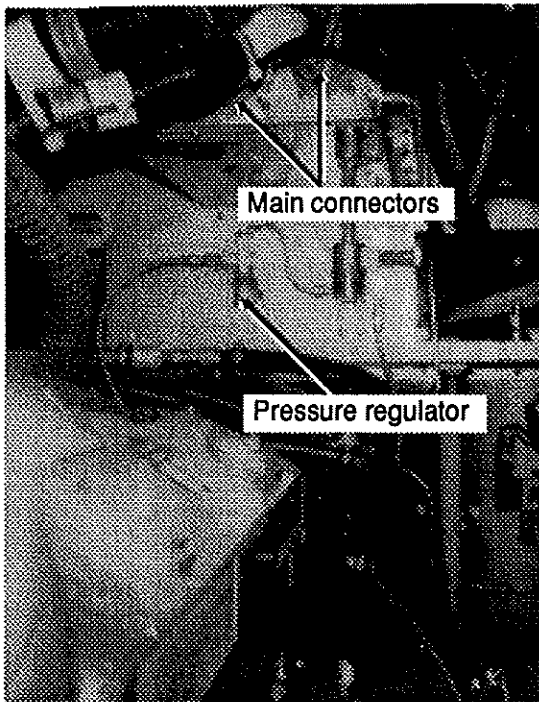

Fig. 15
25. On vehicle equipped with a NON-ATEC automatic transmission, disconnect steel-braided air line from pressure regulator outlet, then remove retaining clips. The pressure regulator is mounted in the upper section of engine compartment back wall (see fig. 15).
26. Disconnect the power plant wiring harness main connectors from receptacle housing mounted on engine compartment ceiling (3 connectors for vehicles equipped with ATEC transmission and only 2 connectors for all other vehicles) (see fig. 15).